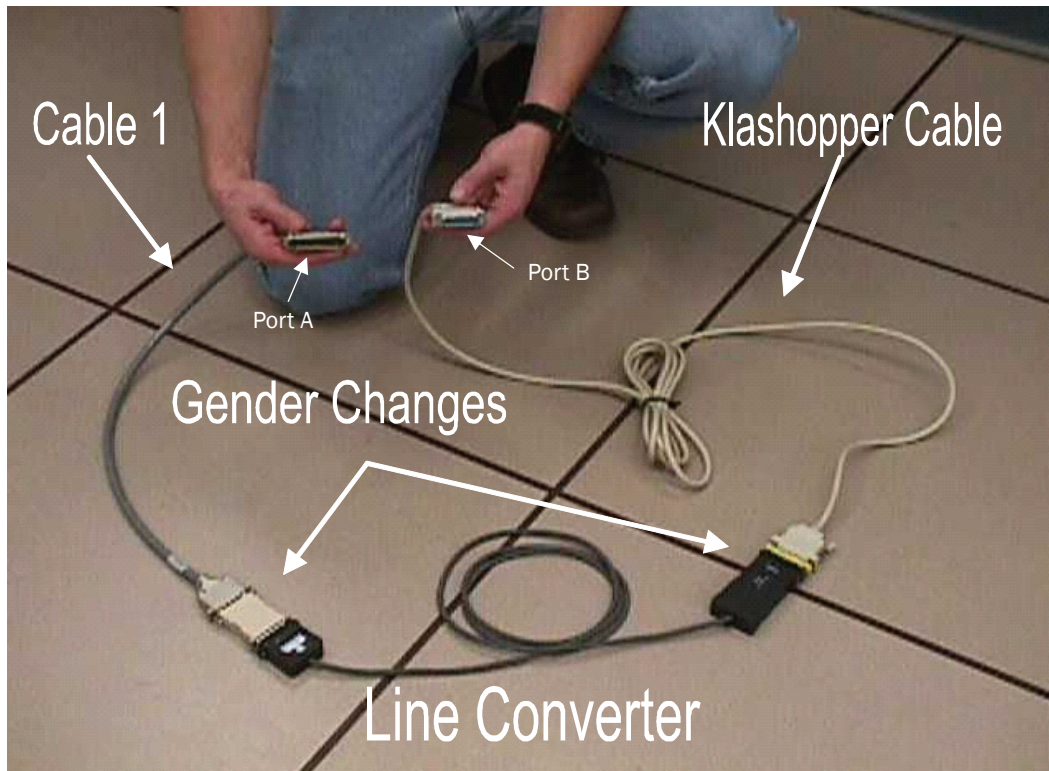

Figure 20. Cable 1 and Klashopper card cables.
- Cable 1 connects the switchbox to the Klashopper card cables (Figure 20). Cable 1 contains a 37-pin male connector and 25-pin male connector. The 37-pin male connector plugs directly into Port A on the rear of the switchbox. The 25-pin male connector plugs into the line converter, which connects to the Klashopper card through the use of gender changers and additional cabling.